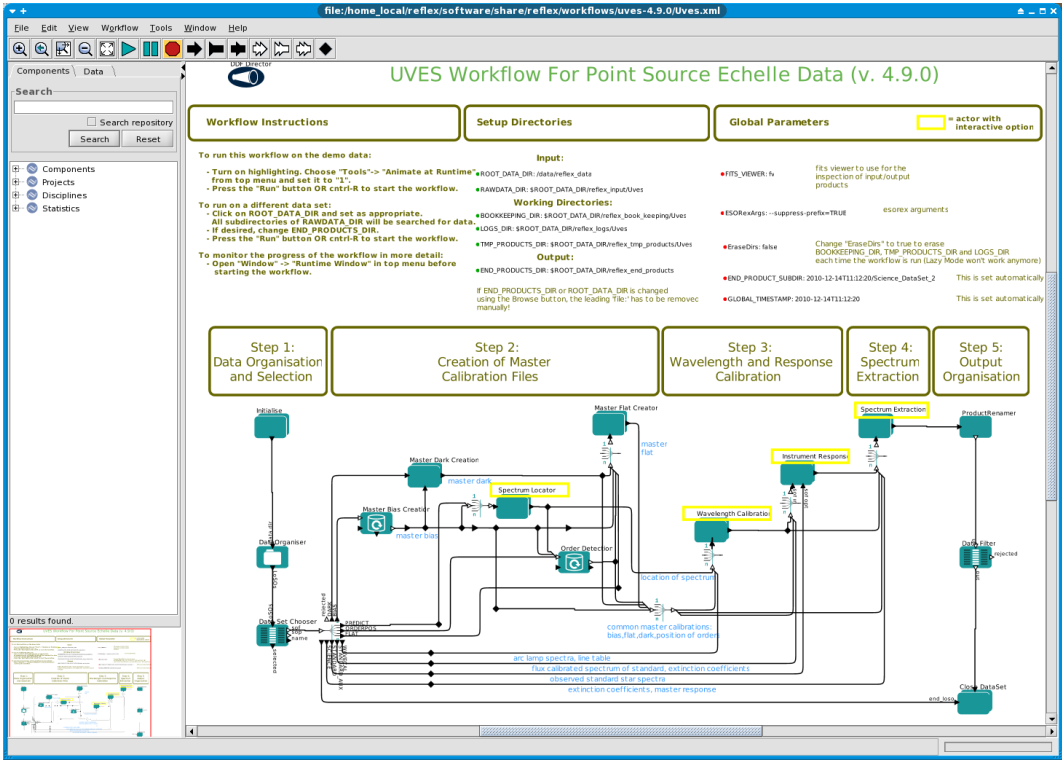

Figure 3.0.2: *UVES workflow general layout.*
2. Now open the UVES workflow by clicking on File -> Open File, selecting the file `Uves.xml` in the file browser³, and clicking Open (this file is located in `<install_dir>/share/reflex/workflows/uves-4.9.6/Uves.xml` in the pipeline installation). You will be presented with the workflow canvas shown in Figure 3.0.2. Note that the workflow will appear as a canvas in a new window.
The UVES workflow canvas is organised into a number of areas (see Figure 3.0.2). From top-left to top-right you will find general workflow instructions, directory parameters and global parameters. In the middle row you will find five green boxes describing the workflow general processing steps in order from left to right, and below this the workflow actors themselves are organised as per the workflow general steps.
The workflow canvas displays a number of parameters that may be set by the user (see Figure 3.0.2). Under “Setup Directories” the user is only required to set the `ROOT_DATA_DIR` to the working directory for the data set(s) to be reduced, which, by default, is set to the directory containing the standard UVES test data. Raw data should be stored in a subdirectory of `ROOT_DATA_DIR`, defined by the parameter `RAWDATA_DIR`, which is recursively scanned by the `Data Organiser` actor for input raw data. If required, the user may edit the directories `BOOKKEEPING_DIR`, `LOGS_DIR`, `TMP_PRODUCTS_DIR`, and `END_PRODUCTS_DIR`, which correspond to the directories where book-keeping files, logs, temporary products and end products are stored, respectively (see the Reflex User Manual for further details; Forchi 2010).